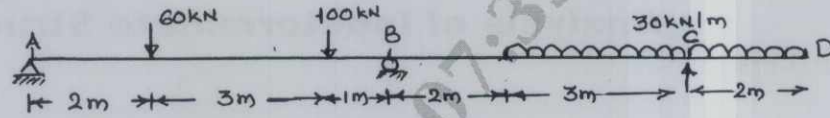

Fig. Q3
- 3 Analyse the beam shown in Fig. Q3 by moment distribution method. Draw BMD, SFD and elastic curve. (20 Marks)